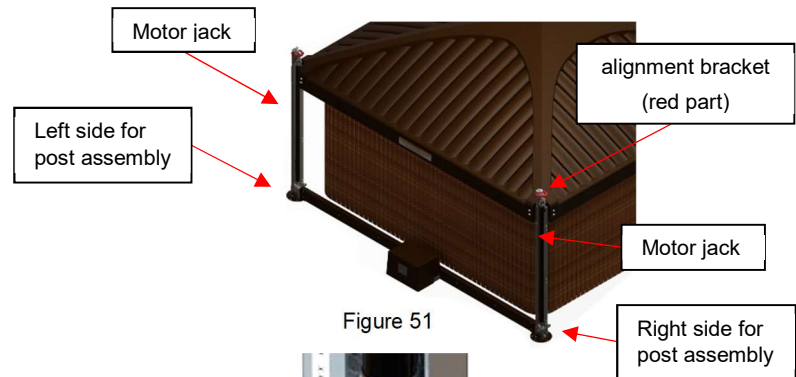

Figure 51
- Put the motor frame in place, usually to the back of the hot tub entrance. Place the motor frame according to Figure 51. The standard model will need the motor frame to be on the short side of the COVANA cover, whereas the long-side model will need the motor frame on the long side of the COVANA cover.